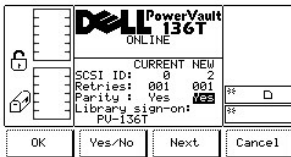

Figure 66. Setup > Library > SCSI > Parity Dialog
- o If the next field is the **Parity** field, see Figure 66.